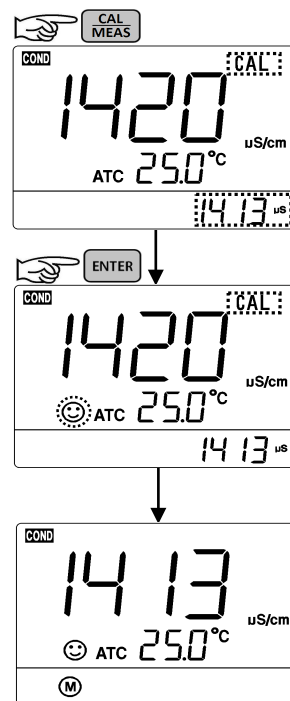

Figure-7
4.4.3. When the meter locks 1413 μ S, stable icon ☺ will display on LCD. Press **ENTER** key to complete calibration. “End” icon will show up and the meter will return to measuring mode and (M) will show up on the bottom left (see Figure-7).